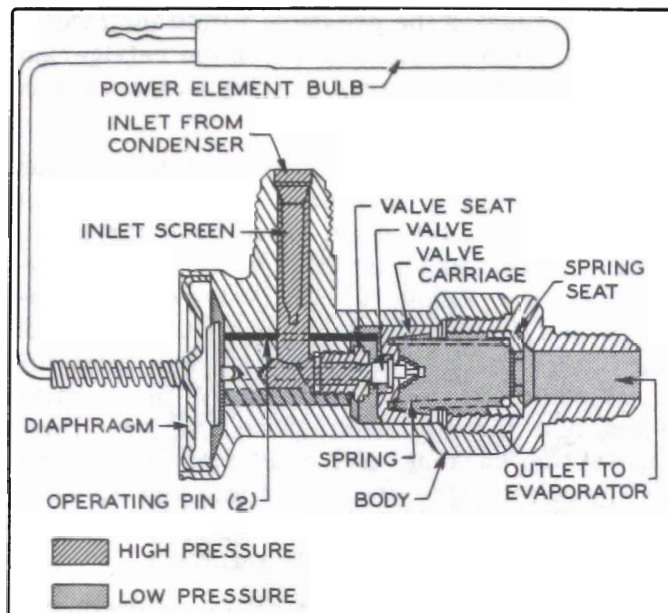

Figure 11-14—Thermostatic Expansion Valve
5. **Thermostatic Expansion Valve.** The thermostatic expansion valve is located at the inlet to the evaporator core inside the evaporator case. The purpose of the valve is to regulate the flow of liquid refrigerant into the evaporator automatically in accordance to the requirements of the evaporator. The temperature in the evaporator must be controlled so that the water collecting on the core surface will not freeze in the fins and block off the air passages. The valve consists of a capillary bulb and tube that are connected to an operating diaphragm inside the valve. See Figure 11-14. The capillary tube bulb is fastened to low pressure line